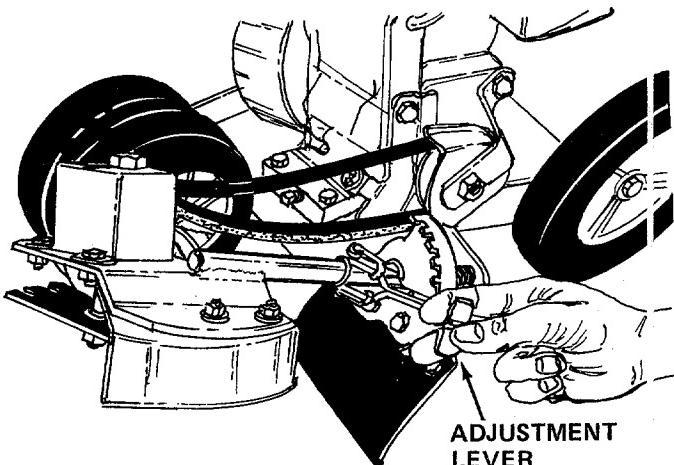
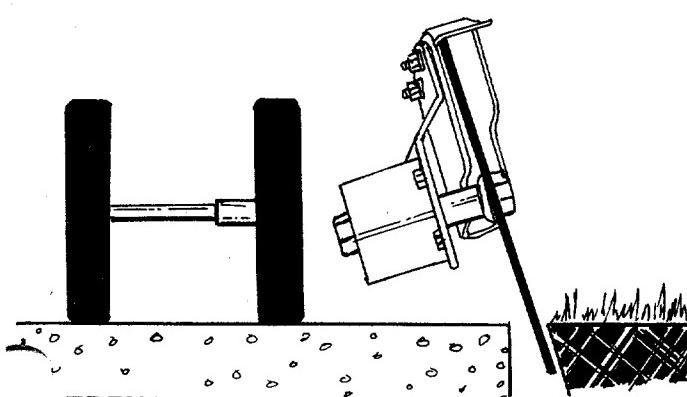

FIGURE 13
FIGURE 17
The cutting blade can be adjusted to eight positions from vertical to horizontal. To adjust, release the adjustment lever on the pivot bracket and rotate the spindle housing. Place adjustment lever in notch desired. See figure 13.
- Set the adjustment lever (refer to figure 13) in the first notch at the top for trenching. See figure 17.